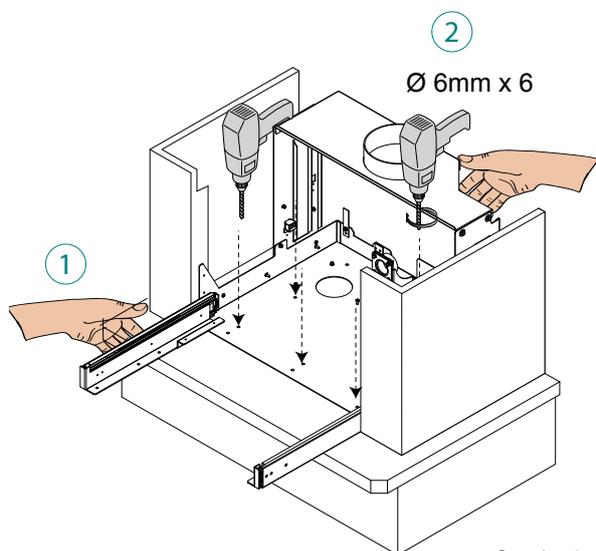

fig. 6.1.8
- 8) Place the load-bearing structure of the insert at the designated point of installation (1), mark and drill 4 $\text{\O} 6$ holes for fastening (2) - use the base of the structure as a template - then drill using a dia. 6 mm drill bit (fig. 6.1.8)